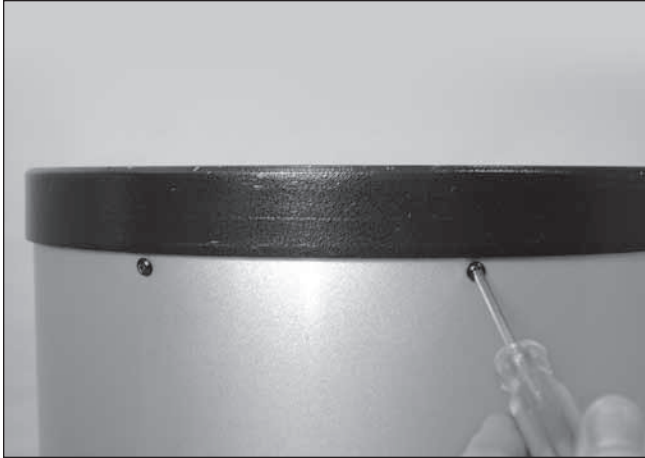

Figure 18. To remove the rear end ring, unthread the eight screws that connect it to the tube.
1. To install the mirror into the optical tube, the rear end ring attached to the lower section of the optical tube must first be removed. This is done by unthreading and removing the eight Phillips-head screws that connect the end ring to the tube (**Figure 18**), and then pulling the end ring off of the tube.